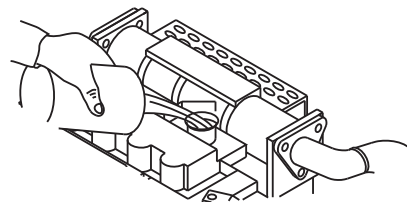

Figure 15. Engine Oil Filler Hole
4. If the engine oil level is low, add oil through the engine oil filler hole (Figure 15) with the recommended oil type (Table 3). Maximum oil capacity is 6.8 quarts (6.5 liters).